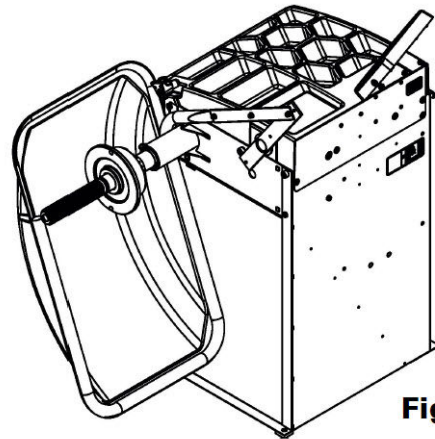

Fig. 2
5. Remove one screw holding the Hood bracket to the balancer arm. **Fig. 2**